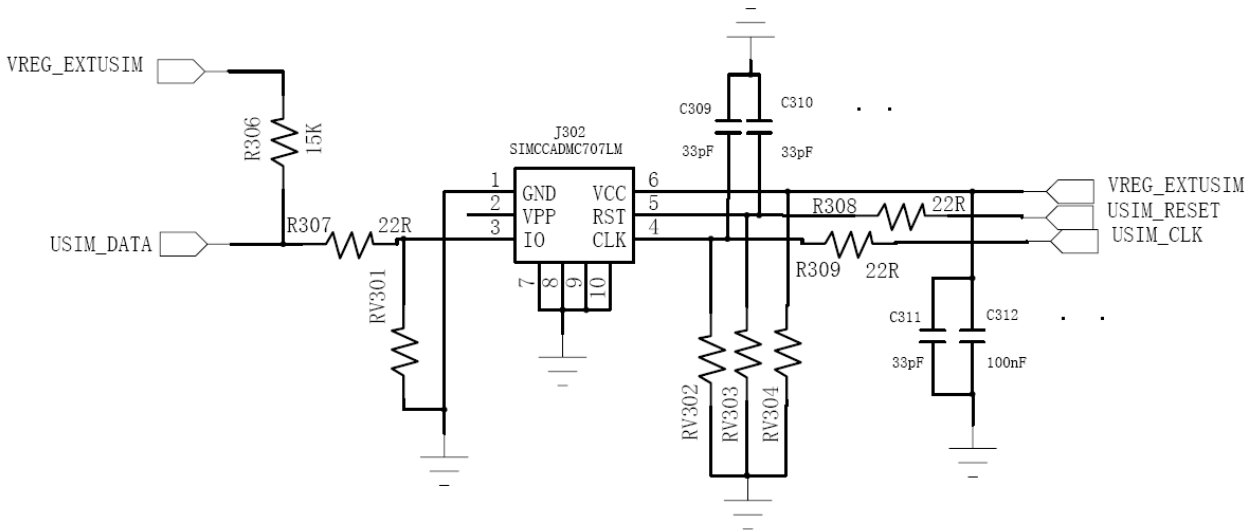

Figure 2-7 The reference circuit of USIM interface
The reference circuit of USIM interface is shown in Figure 2-7 below.
- 2) To avoid the instantaneous voltage overflowing, the resistor with reference value 22 Ω can be used for the DATA, CLK and RST line. Just like the resistors R307, R308 and R309 in Figure 2-7.
CLK and VCC line. Just like the varistors RV301, RV302, RV303 and RV304 in figure 2-7 which should be close to the USIM socket as possible.
- 4) To get more flat USIM power supply, it is recommended to use the filter capacitors. Just like C311 and C312 in Figure 2-7 with reference value 33pF and 100nF.